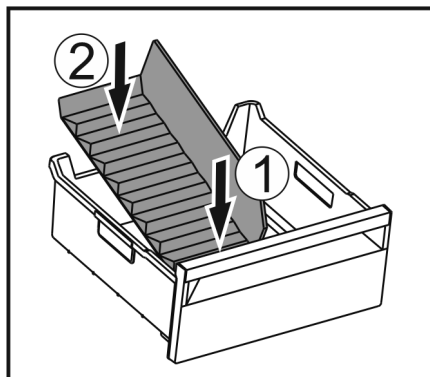

Fig. 128
- ▶ Insert the front part of the ice compartment divider. *Fig. 128 (1)*
- ▶ Lower the rear part of the ice compartment divider to the drawer bottom. *Fig. 128 (2)*